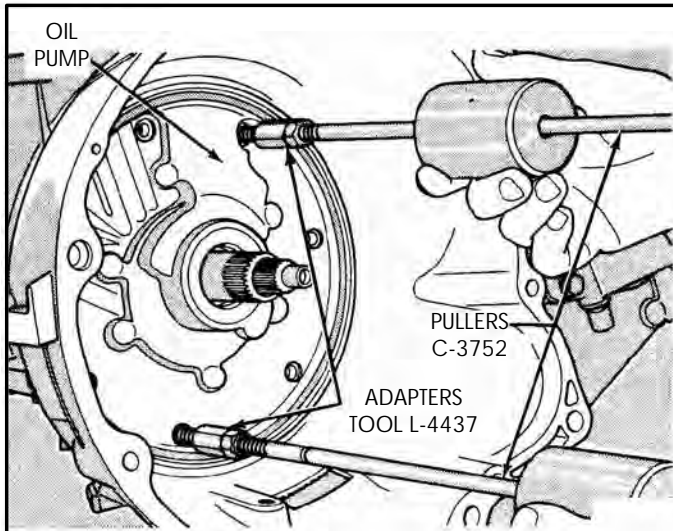

Figure 40
19. Install slide hammers and adapters into the oil pump, as shown in Figure 40, use the slide hammers to break loose.